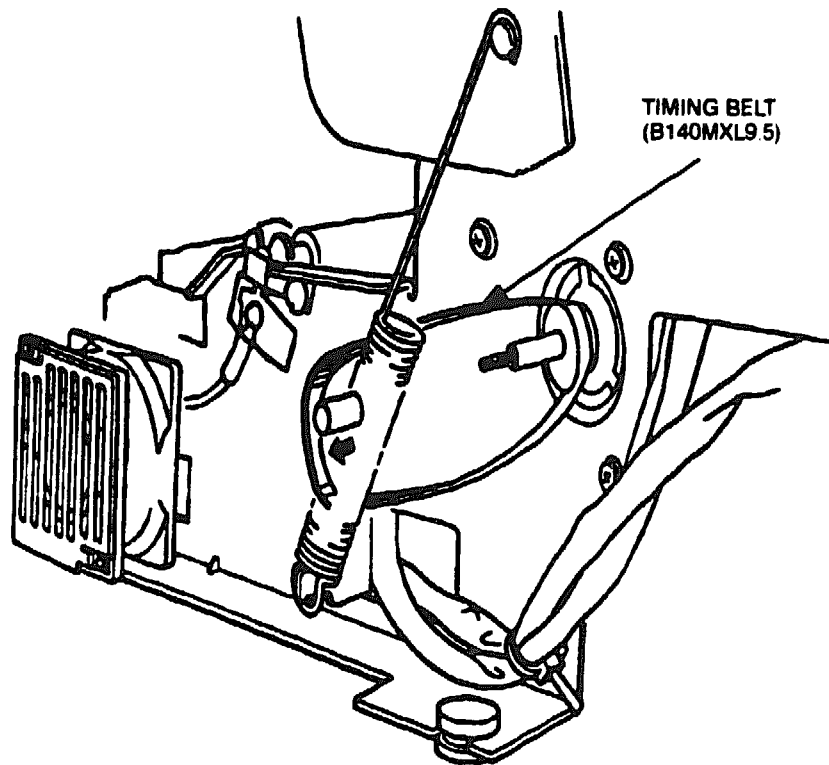

Figure 6-67 Timing Belt B140MXL9.5 Removal
5. Remove timing belt B140MXL9.5 (see Figure 6-67).